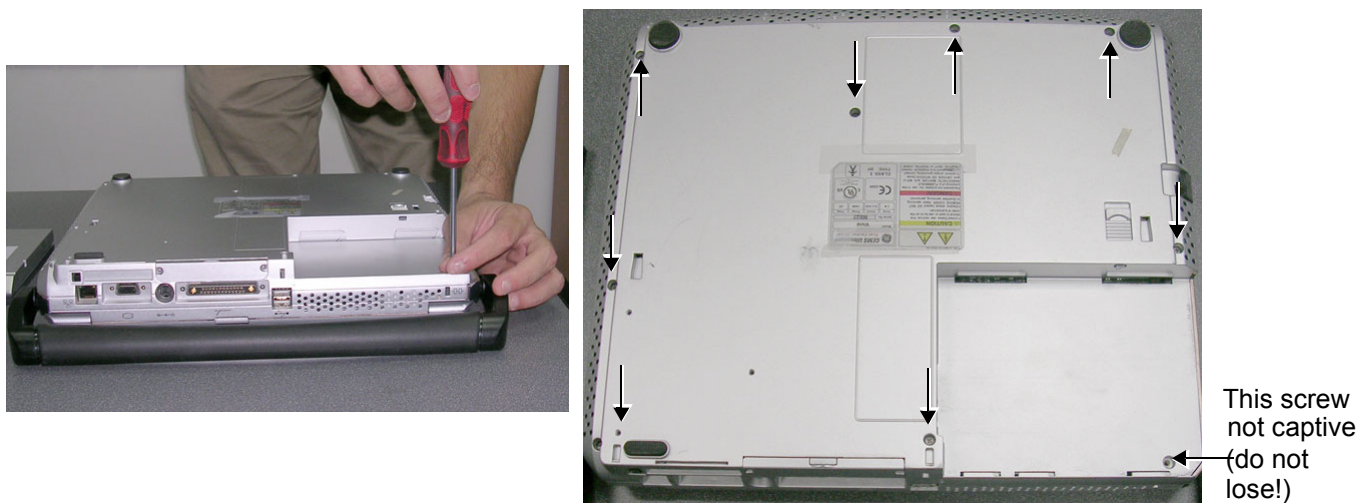

Figure 8-22 Removing the Fastening Screws from the Bottom Assembly
- 3) Loosen and remove each of the 9 screws that fasten the Control Panel and Keyboard onto the Bottom Assembly, as indicated in Figure 8-22 below.
- 5.) Return and fasten each of the 9 screws that secure the Control Panel and Keyboard onto the Bottom Assembly (refer to Figure 8-22, above).